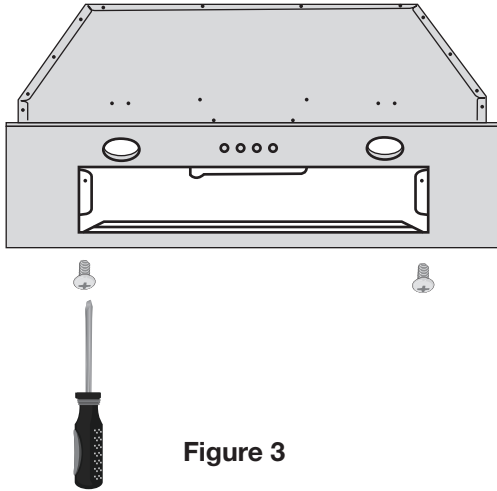

Figure 3
- Remove the filters, halogen lights and the range hood cover. (See Figure 3)